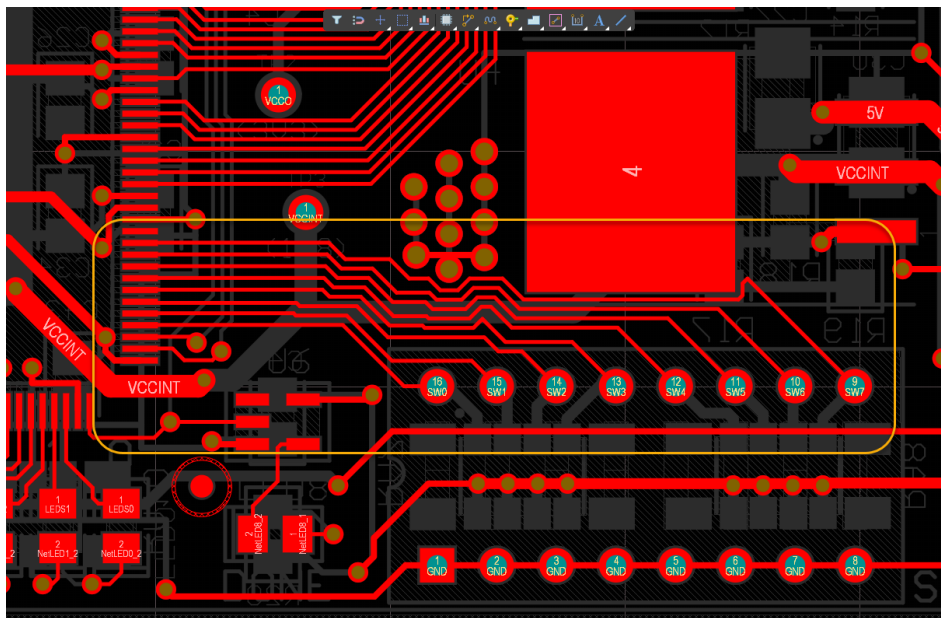

Figure 17. View between U1 and S2
39. The track segments for nets SW0 to SW7 are just above U6, Figure 17. Press **J-C**, type in U6, and select **OK**.